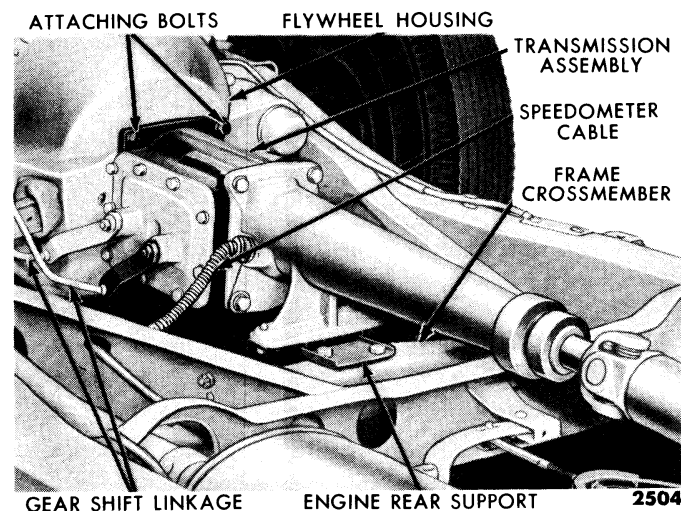

Fig. 13—Transmission Installation—Conventional Cars
(1) **CONVENTIONAL CARS.** Drain the transmission, then disconnect the gear shift linkage at the transmission. Remove the speedometer cable and gear. Remove the drive shaft. Remove the bolts which attach the transmission extension to the engine rear support (fig. 13). Remove the frame cross member and engine rear support.